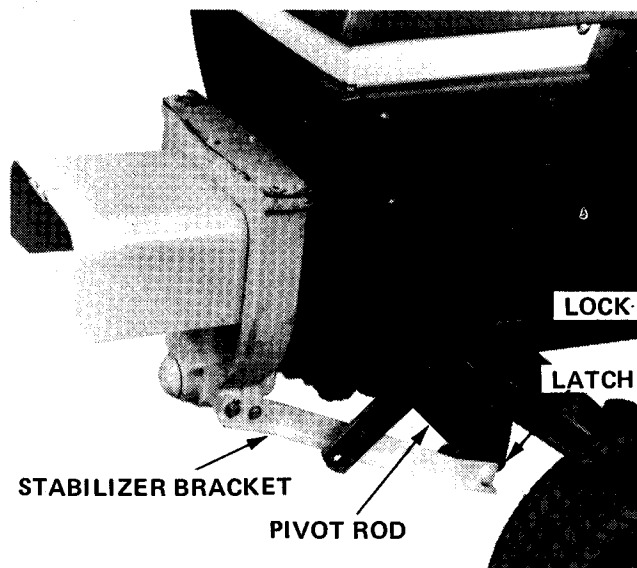

FIGURE 5
5. Position PTO attachment in front of tractor and engage coupling assembly splines with splines on tractor PTO shaft as shown in Figure 3. At the same time, place stabilizer bracket pivot rod in tractor saddle brackets as shown in Figure 5. Lock in place by lowering the latches and locks.
10. Re-install PTO attachment on tractor as shown in Figures 3 and 5. Secure with a clevis pin and hairpin cotter, Figure 3, and the tractor saddle bracket latches and locks, Figure 5.
13. Attach shield, Figure 5, to PTO attachment with three 5/16" x 3/4" cap screws and lockwashers.
14. Remove cover, Figure 5, and fill gear box with six ounces of Ariens gear lubricant No. 90 or its equivalent.